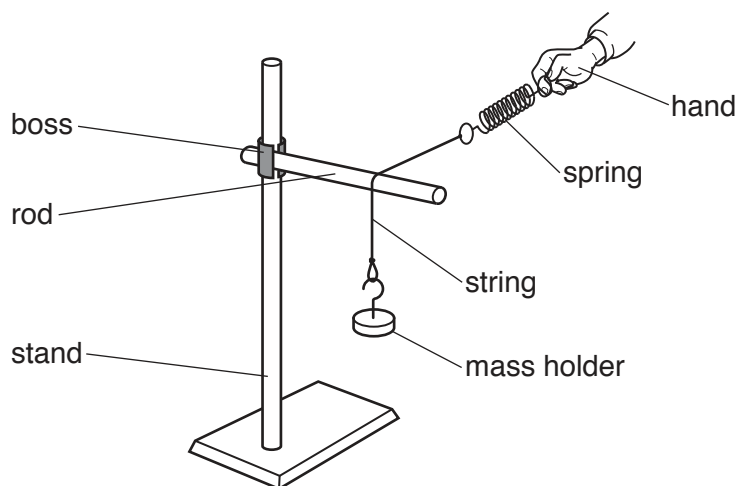

Fig. 1.1
- The string should be approximately 30 cm long, 1.5 mm wide and made of cotton or nylon. The string should be strong enough to support a 2 kg load without stretching or breaking. One end of the string should be tied to the mass holder, the other end should be tied to the end of the spring as shown in Fig. 1.1.
- A suitable rod is the rod of another retort stand held in the boss. The boss should be fixed tightly to the rod so that it does not rotate when the spring is pulled, as shown in Fig. 1.1.